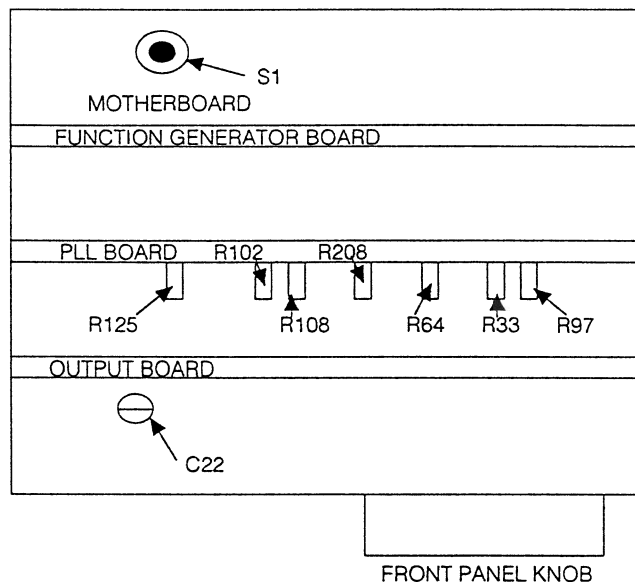

Figure 5-1. Calibration Location
- Slide the top cover back. Press and hold down the internal calibration switch S1 (figure 5-1) while pressing the front panel CALIBRATE key.
If incorrect, adjust C22 (figure 5-1) until the reading is within specified limits.
- On the Model 288, slowly adjust the Front Panel Knob (figure 5-1) until the THD as displayed on the distortion analyzer is minimum. Verify that reading is ≤ -50 dB at 10 kHz.
Adjust R33 (figure 5-1) until waveform peaks are clearly visible in the residue.
- If incorrect, adjust R208 (figure 5-1) until reading is within specified limits.
If carrier null is incorrect, adjust R108 (figure 5-1) for minimum indication..